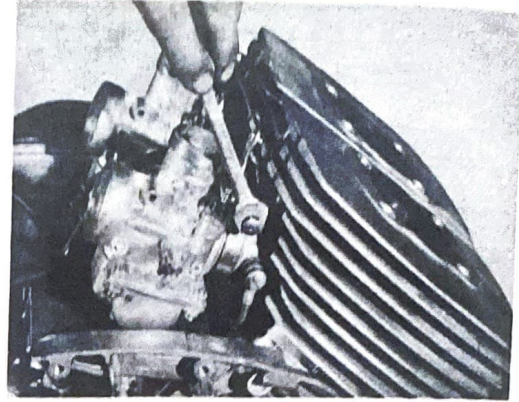

Fig. 4-20-2
- 2) Loosen the both clamp bolts. (Fig. 4-20-2)